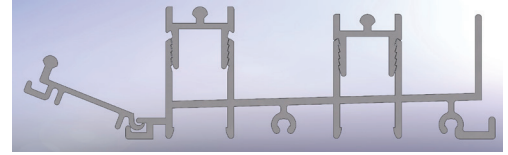

Figure 41
11. **Attach** the standard screen rail to the main frame by inserting the tail piece into the main frame sill accessory grove and rotate downward. (See Figure 41)